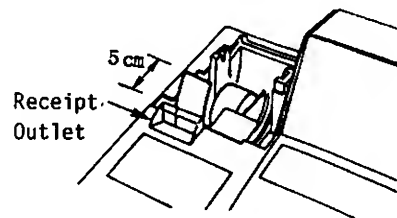

Fig. 5
5. When the paper comes out of the receipt outlet for approx. 5cm (or 2 inches), release the [RF] key (Fig. 5).